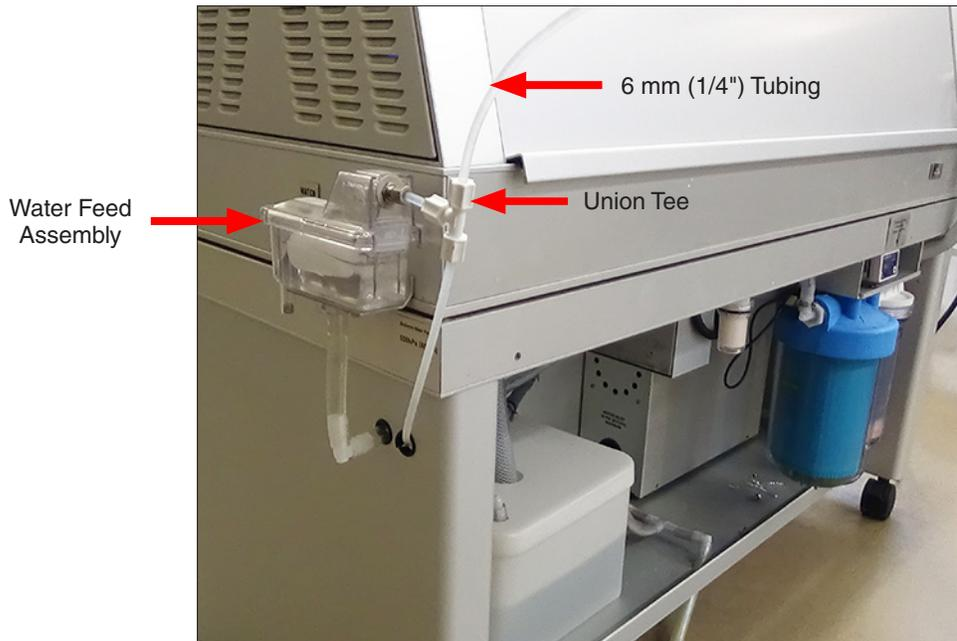

Figure 6.4g: Water supply connection for QUV/spray/rp testers.
- Connect a 6 mm (1/4") water supply tube to the union tee on the water feed assembly (Figure 6.4g).